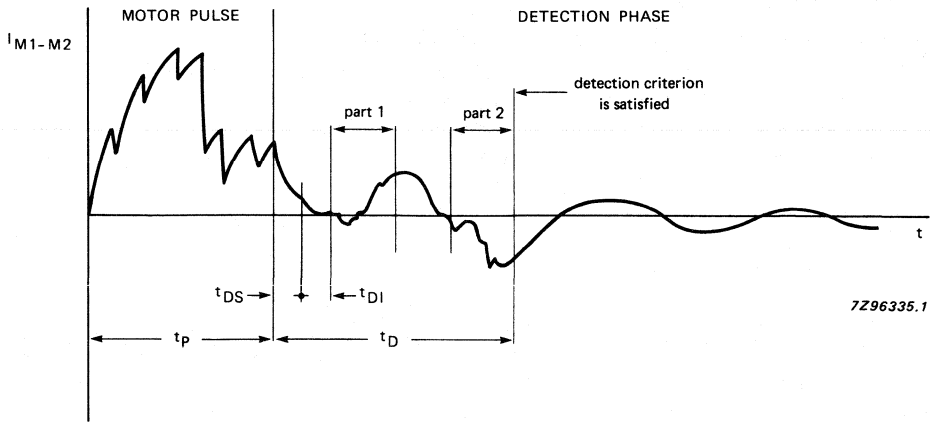

Fig.6 Typical current waveform of a successfully executed motor pulse.
Detection criterion (Figs 6 and 7)
- N = 3 number of measured positive current polarities since the first negative current polarity is detected after part 1 (see Fig.6).